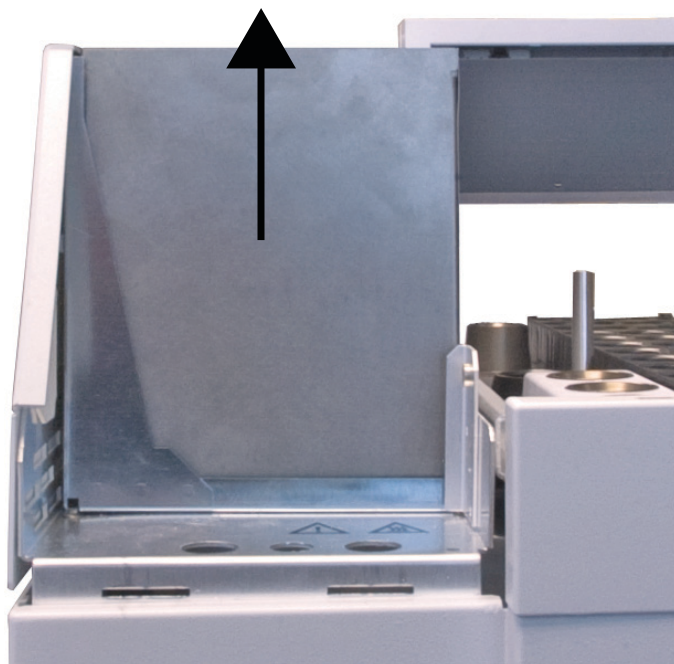

Figure 2 Lift the valve thermal enclosure straight up
- 3 Carefully lift the valve thermal enclosure straight up and off of the headspace sampler (Figure 2).